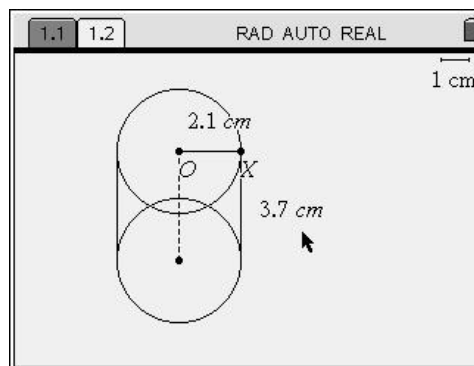

Figure 16
16. Next measure the radius and height of the cylinder. Press MENU 7 1 for Menu, 7:Measurement, 1:Length. Move the cursor until the radius is flashing and the text reads, “segment OX”. Press ENTER . The measurement first appears in grayscale. Move the measurement where you want it, and press ENTER again. Repeat the process for the height of the cylinder. (Figure 16)